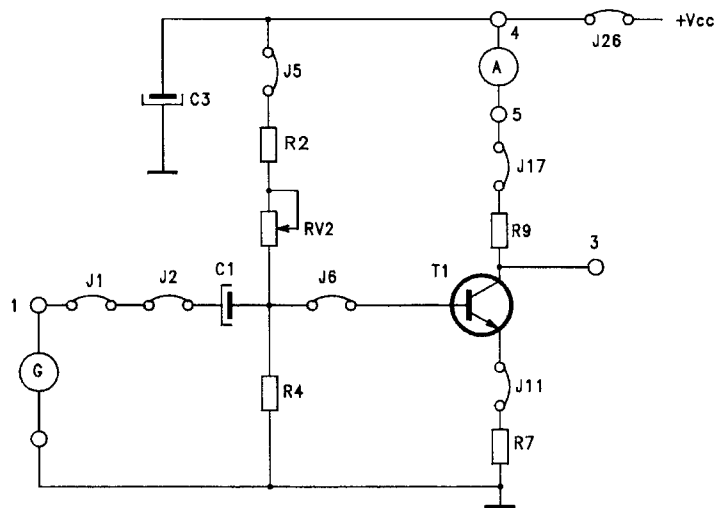

fig.B29.3
- Insert jumpers J1, J2, J5, J6, J11, J17, J26, and the multimeter (function IDC) between terminals 4 and 5 to produce the circuit of figure B29.3